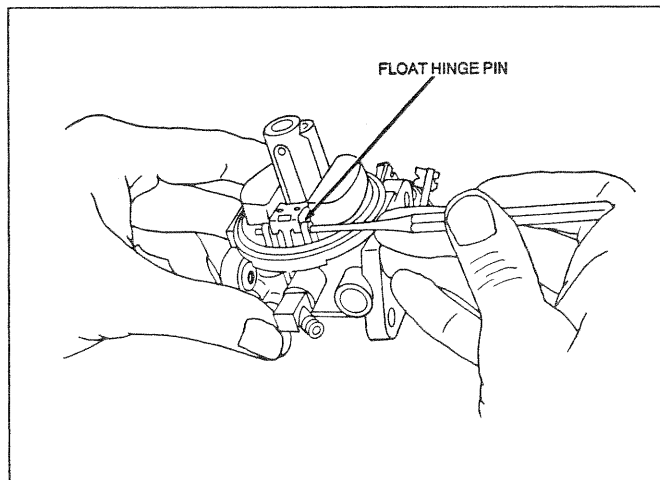

Figure 126. Float Hinge Pin Removal
- Use a small punch to drive the float hinge pin out of float hinge (Figure 126).